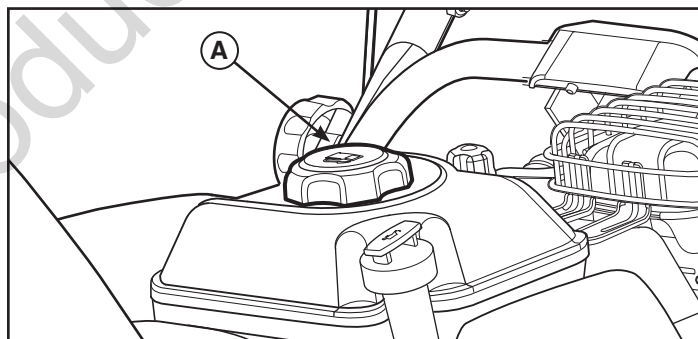

Figure 4
1. Clean the fuel cap area of dirt and debris. Remove the fuel cap (**A**, Figure 4).